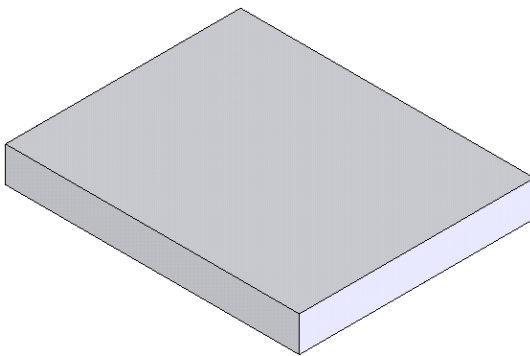

Figure 16-159 Base feature
- Create the base feature by extruding a sketch created by selecting the **Top** plane as the sketching plane, refer to Figure 16-159.
The model base feature of the model is displayed in Figure 16-159.